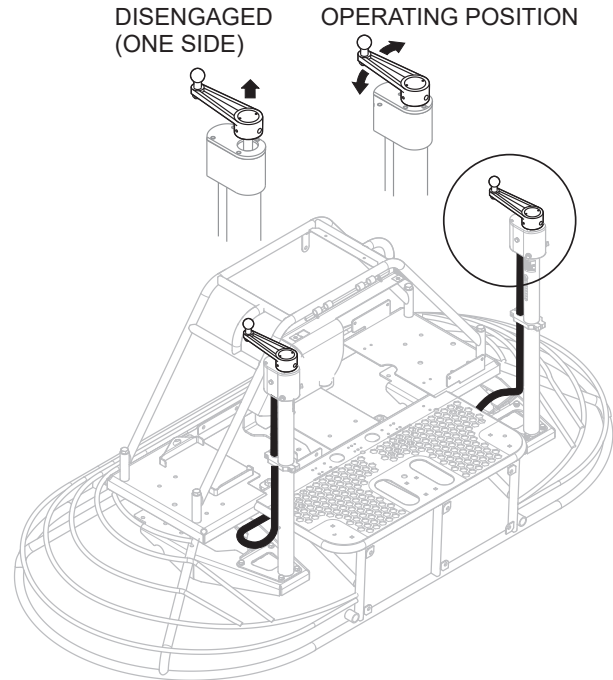

Figure 19. Pitch Towers
- Lift the pitch adjustment handle (Figure 19) on either side of the trowel. Once lifted, that side is now disconnected from the Twin Pitch™ system.